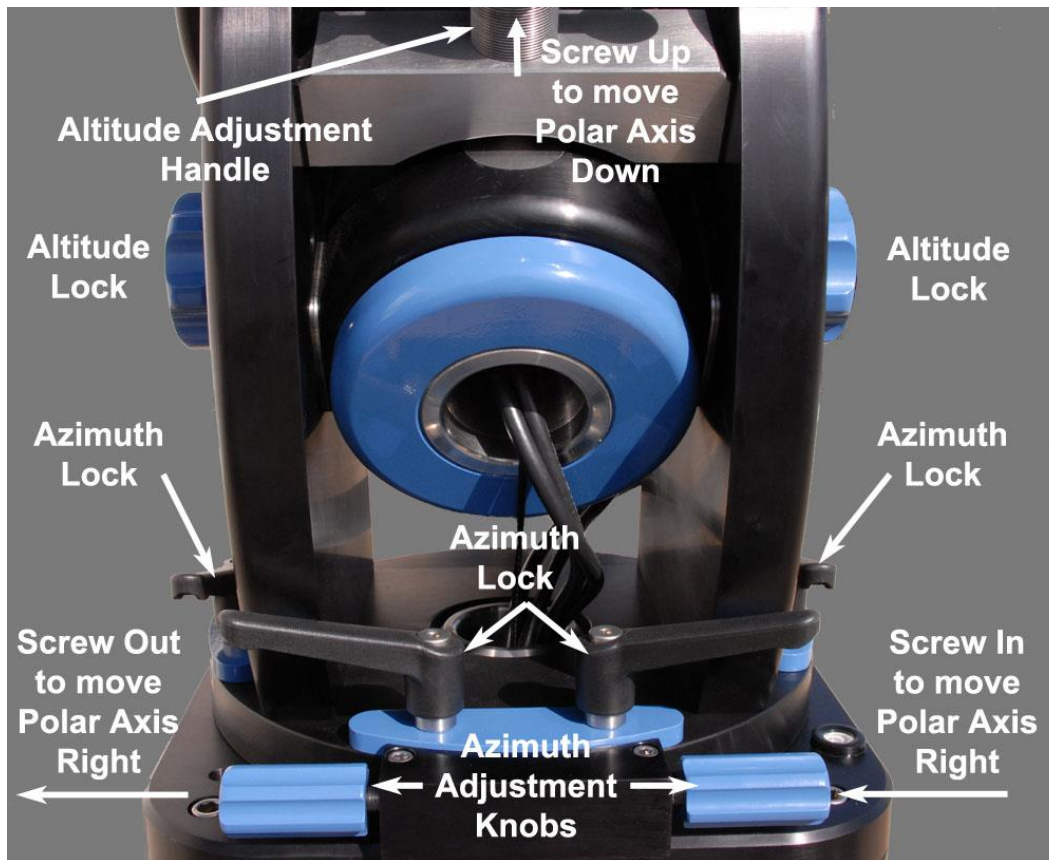

Figure 26 - Polar alignment adjustment components
17. To move the polar axis in azimuth, loosen the six azimuth locking knobs shown in Figure 26 below. Assuming the polar axis needs to be moved to the right, first loosen the azimuth adjustment knob on the left, then tighten the Azimuth Adjustment Knob on the right.